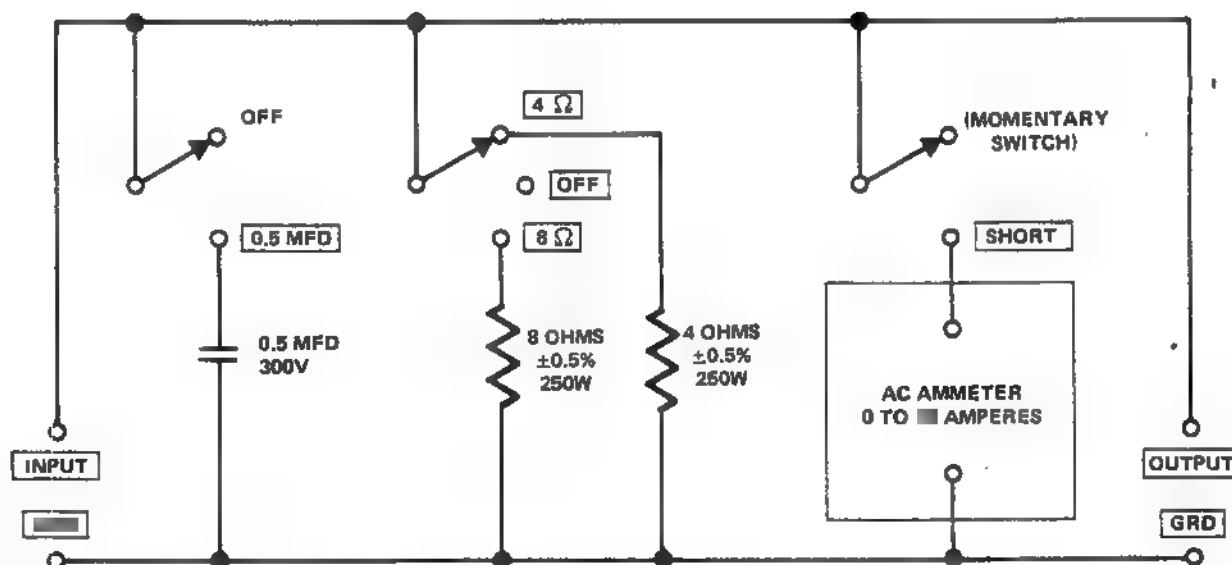

Figure 5. Amplifier Output Load Box Simplified Schematic
1. Set up the test equipment as shown in Figure 5, with the instrument controls ■ in the following positions: